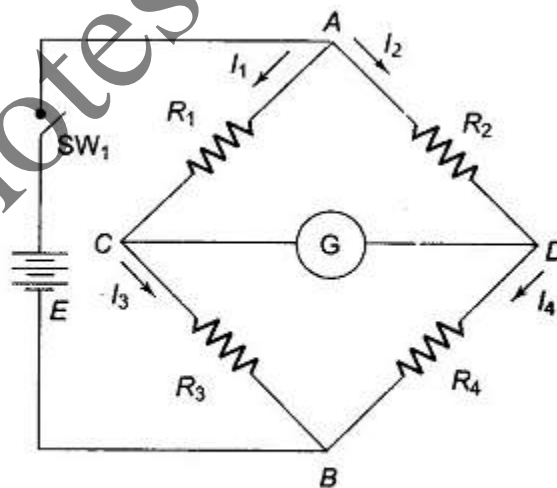

Fig. 4.1 Wheatstone's Bridge
- Bridge as a simple circuit consists of having 4 resistance arms in a closed loop, with dc current source applied to 2 opposite junction and current detector connected to other 2 junction as shown in Fig. 4.1.
- The circuit is shown in Fig 4.1.